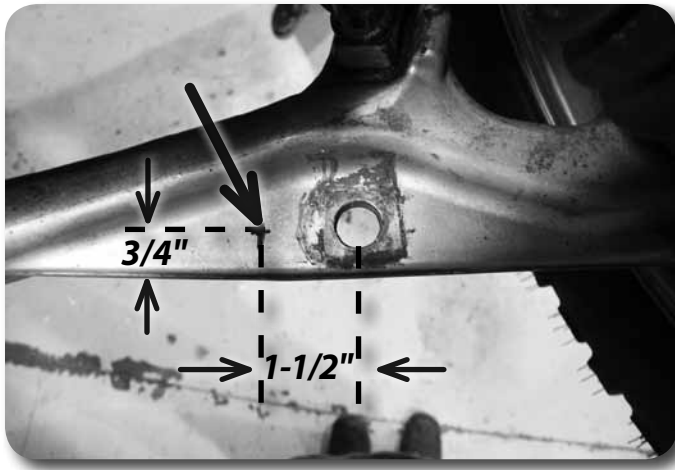

Figure 33
65. Locate the original sway bar link mounting hole on the lower control arm. Measure inward from the center on the hole 1-1/2" (toward the frame mount) and mark. Measure in from the back edge of the control near the first mark $\frac{3}{4}$ " and mark. Where the two marks cross drill a $\frac{5}{8}$ " hole Figure 33.